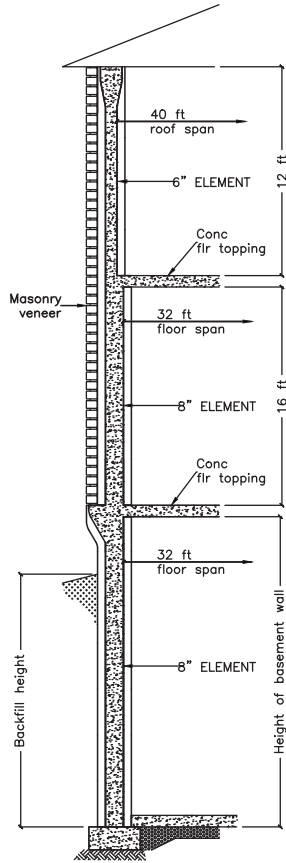

Fig 2B
2. Table 2B shall be read in conjunction with Fig 2B, and section "Notes for Tables 2A to 2D - ELEMENT Below-grade Tables."